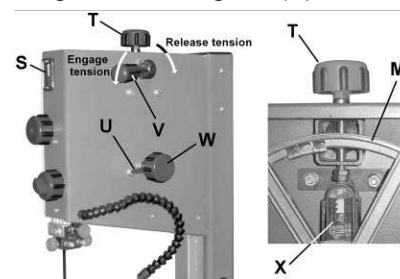

Figure 10
5. Release *tension* on the blade by moving the *tension handle* (V, Fig. 10) to the right.
10. Engage *tension* on the blade by moving the *quick tension handle* (V, Fig. 10) to the left.
Referring to Figure 10: